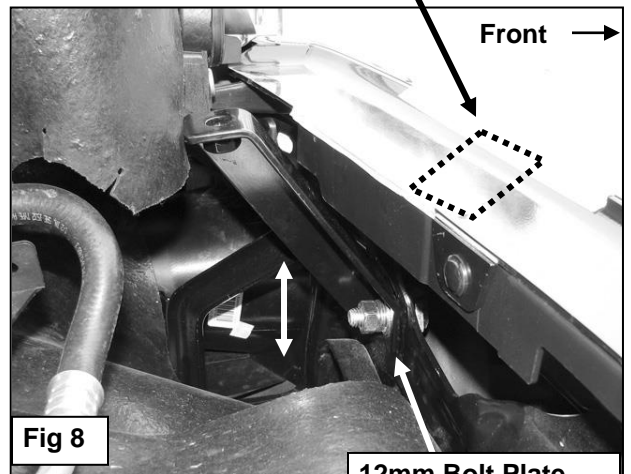

Fig 8
2. Open the front hood on the vehicle. Locate the top of the bumper bracket behind the driver side of the front bumper. Locate the open hole in the top outer end of the bumper bracket, **(Figure 6)**. Insert (1) 12mm x 35mm Bolt Plate down and into the gap at the top of the bracket and out through the hole with the threaded end of the Bolt Plate facing to the rear toward the radiator, **(Figures 7A & 7B)**. Slide the lower end of the driver side Top Support Bracket, (end with hole), over the Bolt Plate. Secure the Bracket to the Bolt Plate with (1) 12mm Flat Washer, (1) 12mm Lock Washer and (1) 12mm Hex Nut, **(Figure 8)**. **IMPORTANT:** Do not tighten hardware at this time.
NOTE: Before proceeding, cover the top of the plastic bumper, (driver and passenger sides), with removable tape, (masking tape for example), to protect the bumper during Top Bracket installation, **(Figure 8)**. Next, apply a section of the included Adhesive Backed Foam Tape to the bottom of both Top Brackets to prevent damage to the painted finish on the vehicle, **(Figure 10)**.
NOTE: It may be necessary to raise or lower the height of the Top Bracket to fit properly between the grille and the top of the bumper. Loosen the 12mm Hex Nut attaching the bottom of the Support Bracket to the Bolt Plate, **(Figure 8)**. Move the Top Bracket up or down as needed to clear the top of the bumper and line up with the Grille Guard before tightening the hardware. Do not fully tighten Top Bracket hardware until after all hardware has been installed and the Grill Guard properly aligned and adjusted.
Loosen Hex Nut on Bolt Plate (Fig 8) and adjust height of Support Bracket (up or down) as necessary. Do not tighten Hex Nut until final adjustment step.
For easier installation, insert (1) 12mm Hex Bolt per side in the location pictured in Figure 8 to act as a hinge. Snug the hardware but do not tighten, then rotate the Grille Guard up into position